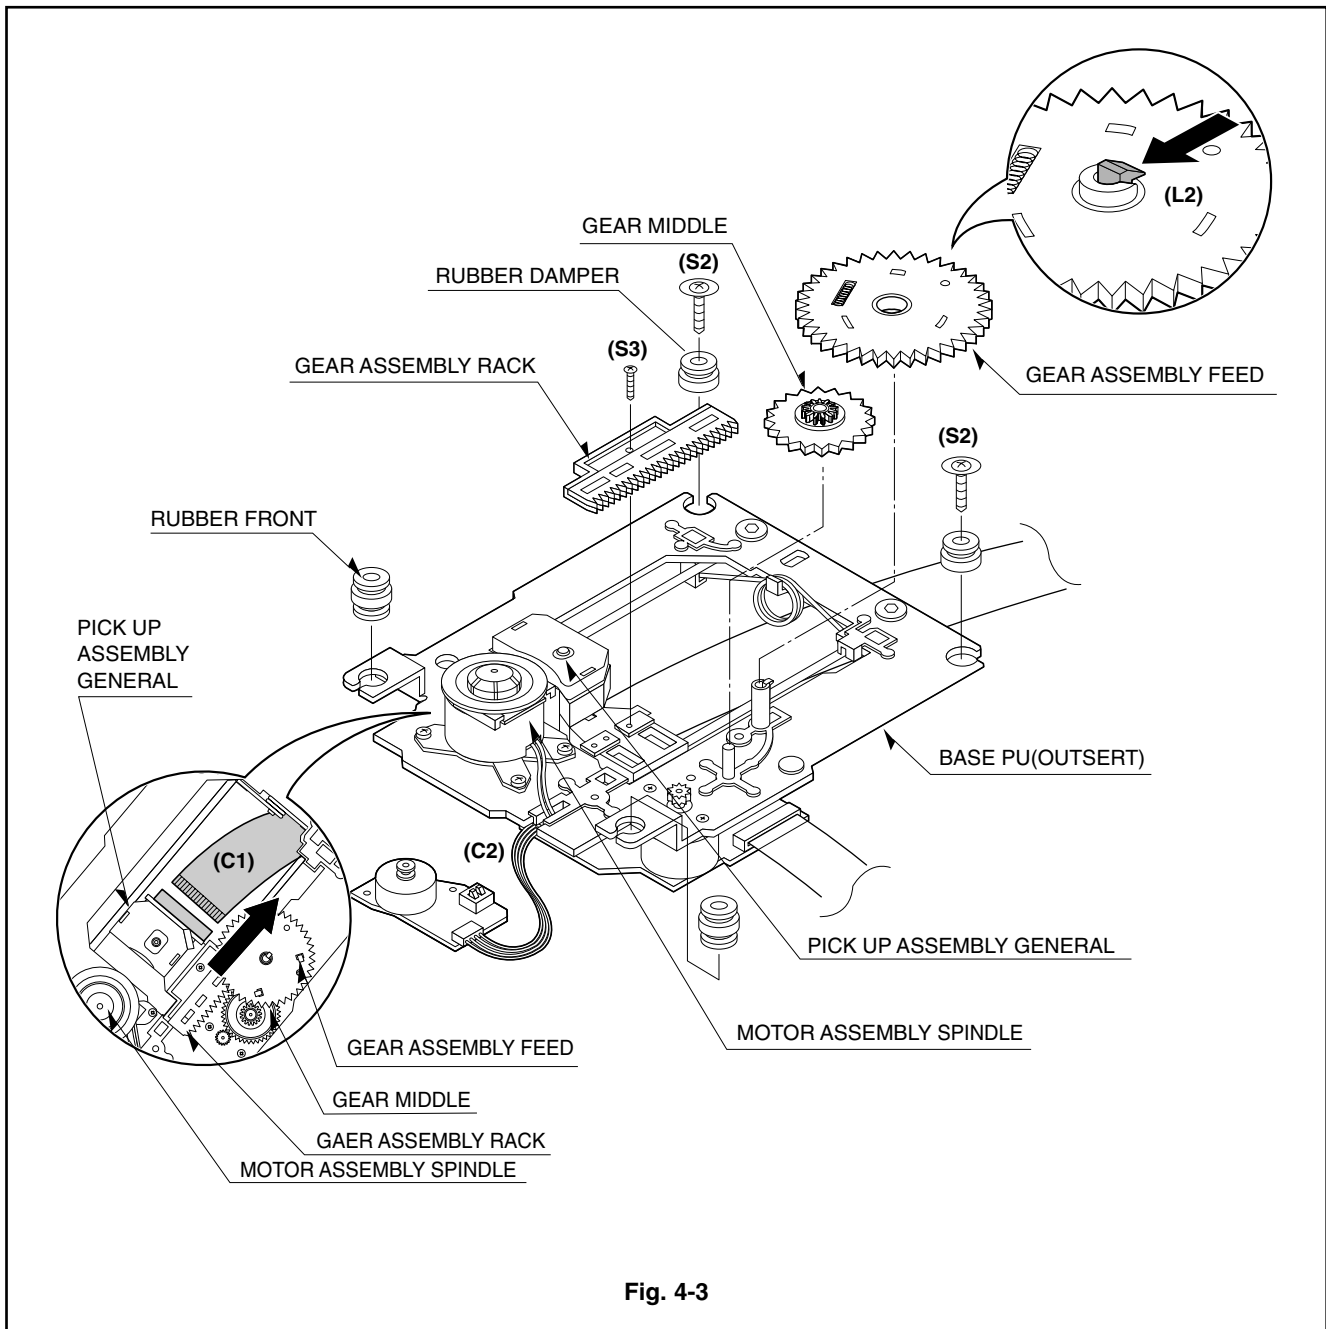

Fig. 4-3
3. Base Assembly Sled (Fig. 4-3)
4. Rubber (Fig. 4-3)